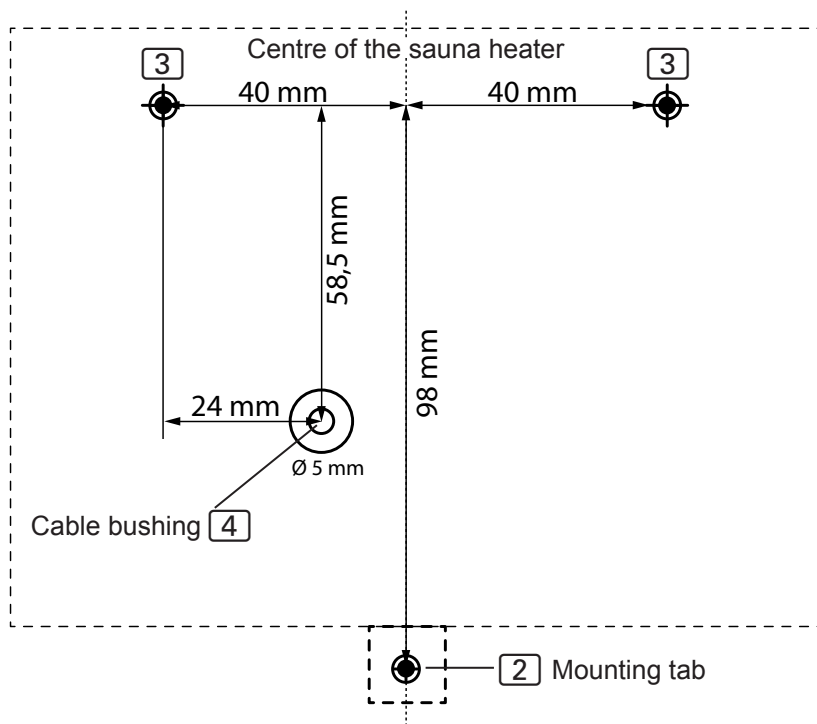

Fig.3 Installing the safety shut-off
► See Fig.3 Installing the safety shut-off
4. To fix it in place, screw a half-round wood screw into the lower mounting tab **2** of the safety shut-off (**Fig.3 Installing the safety shut-off on page 9**)